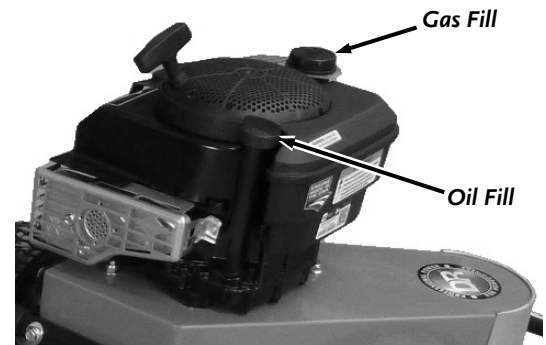

Figure 17
2. Initially add 1/2 of the SAE 30 High Detergent oil into the Oil Fill (**Figure 17**) and wait one minute for the oil to settle.